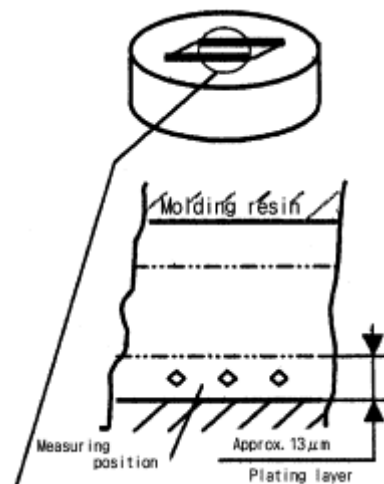

Fig. 1
- 1) Sample: plating layer on a metal plate (See Fig. 1)